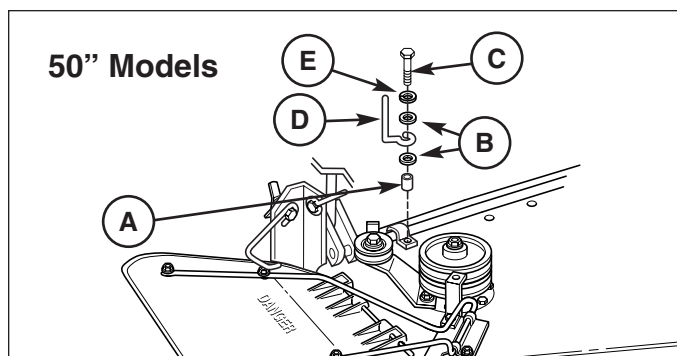

Figure 7. Install Belt Guide
1. See Figure 7 & 8. Locate the taprite screw that will be replaced by capscrew (C). Remove and discard the taprite screw
2. Assemble the 5/16-18 x 1-1/2 capscrew (C), lockwasher (E), washers (B), belt stop (D) and spacer (A).
Note The belt stop (D, Figures 7 & 8) is located and oriented differently in 44" and 50" applications. For all applications, when turbo is installed, belt stop (D) should be outside the belt 1/8" away from the backside of the belt.
NOTE: The deflector latch **MUST** secure the deflector in a down position—as shown in Figure 7.